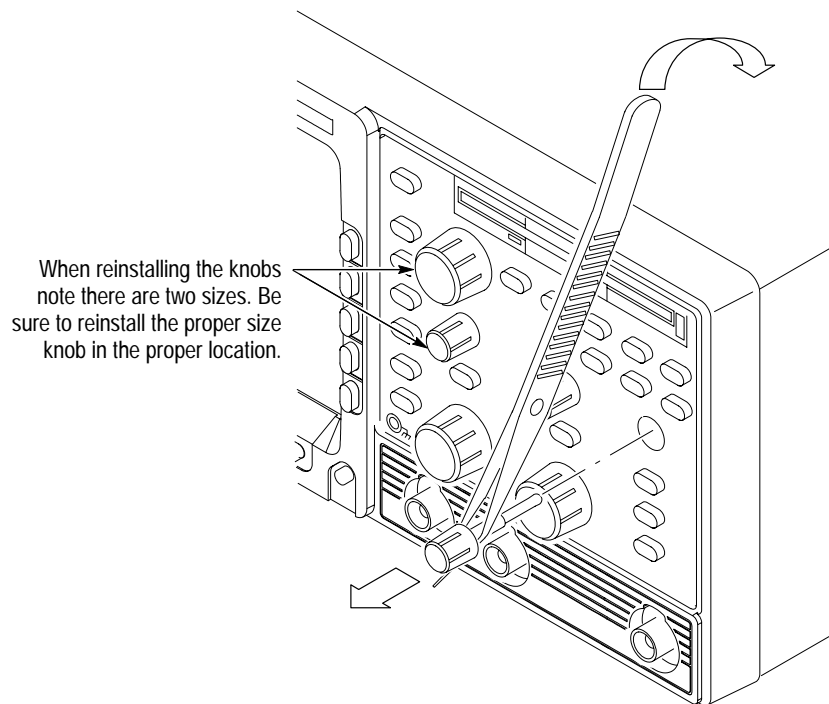

Figure 6–4: Knob and shaft removal
2. Set the oscilloscope so its face is down with its front cover on the work surface and its bottom facing you. Reference Figure 6–5 on page 6–12 as you do the following steps.